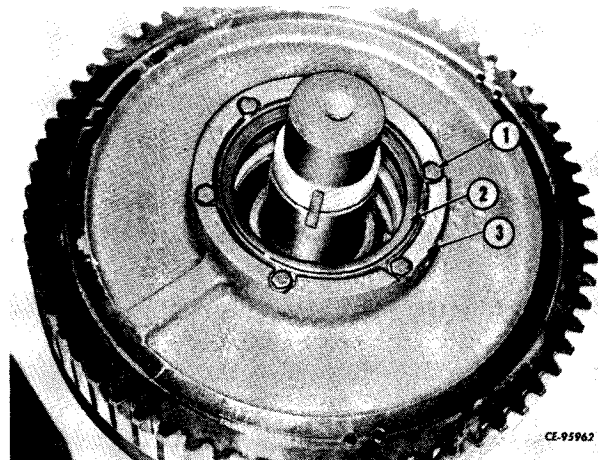

Figure 14-17
Remove cap screws (1, Fig. 14-17) and washers securing rotary seal assembly (2) in hub.